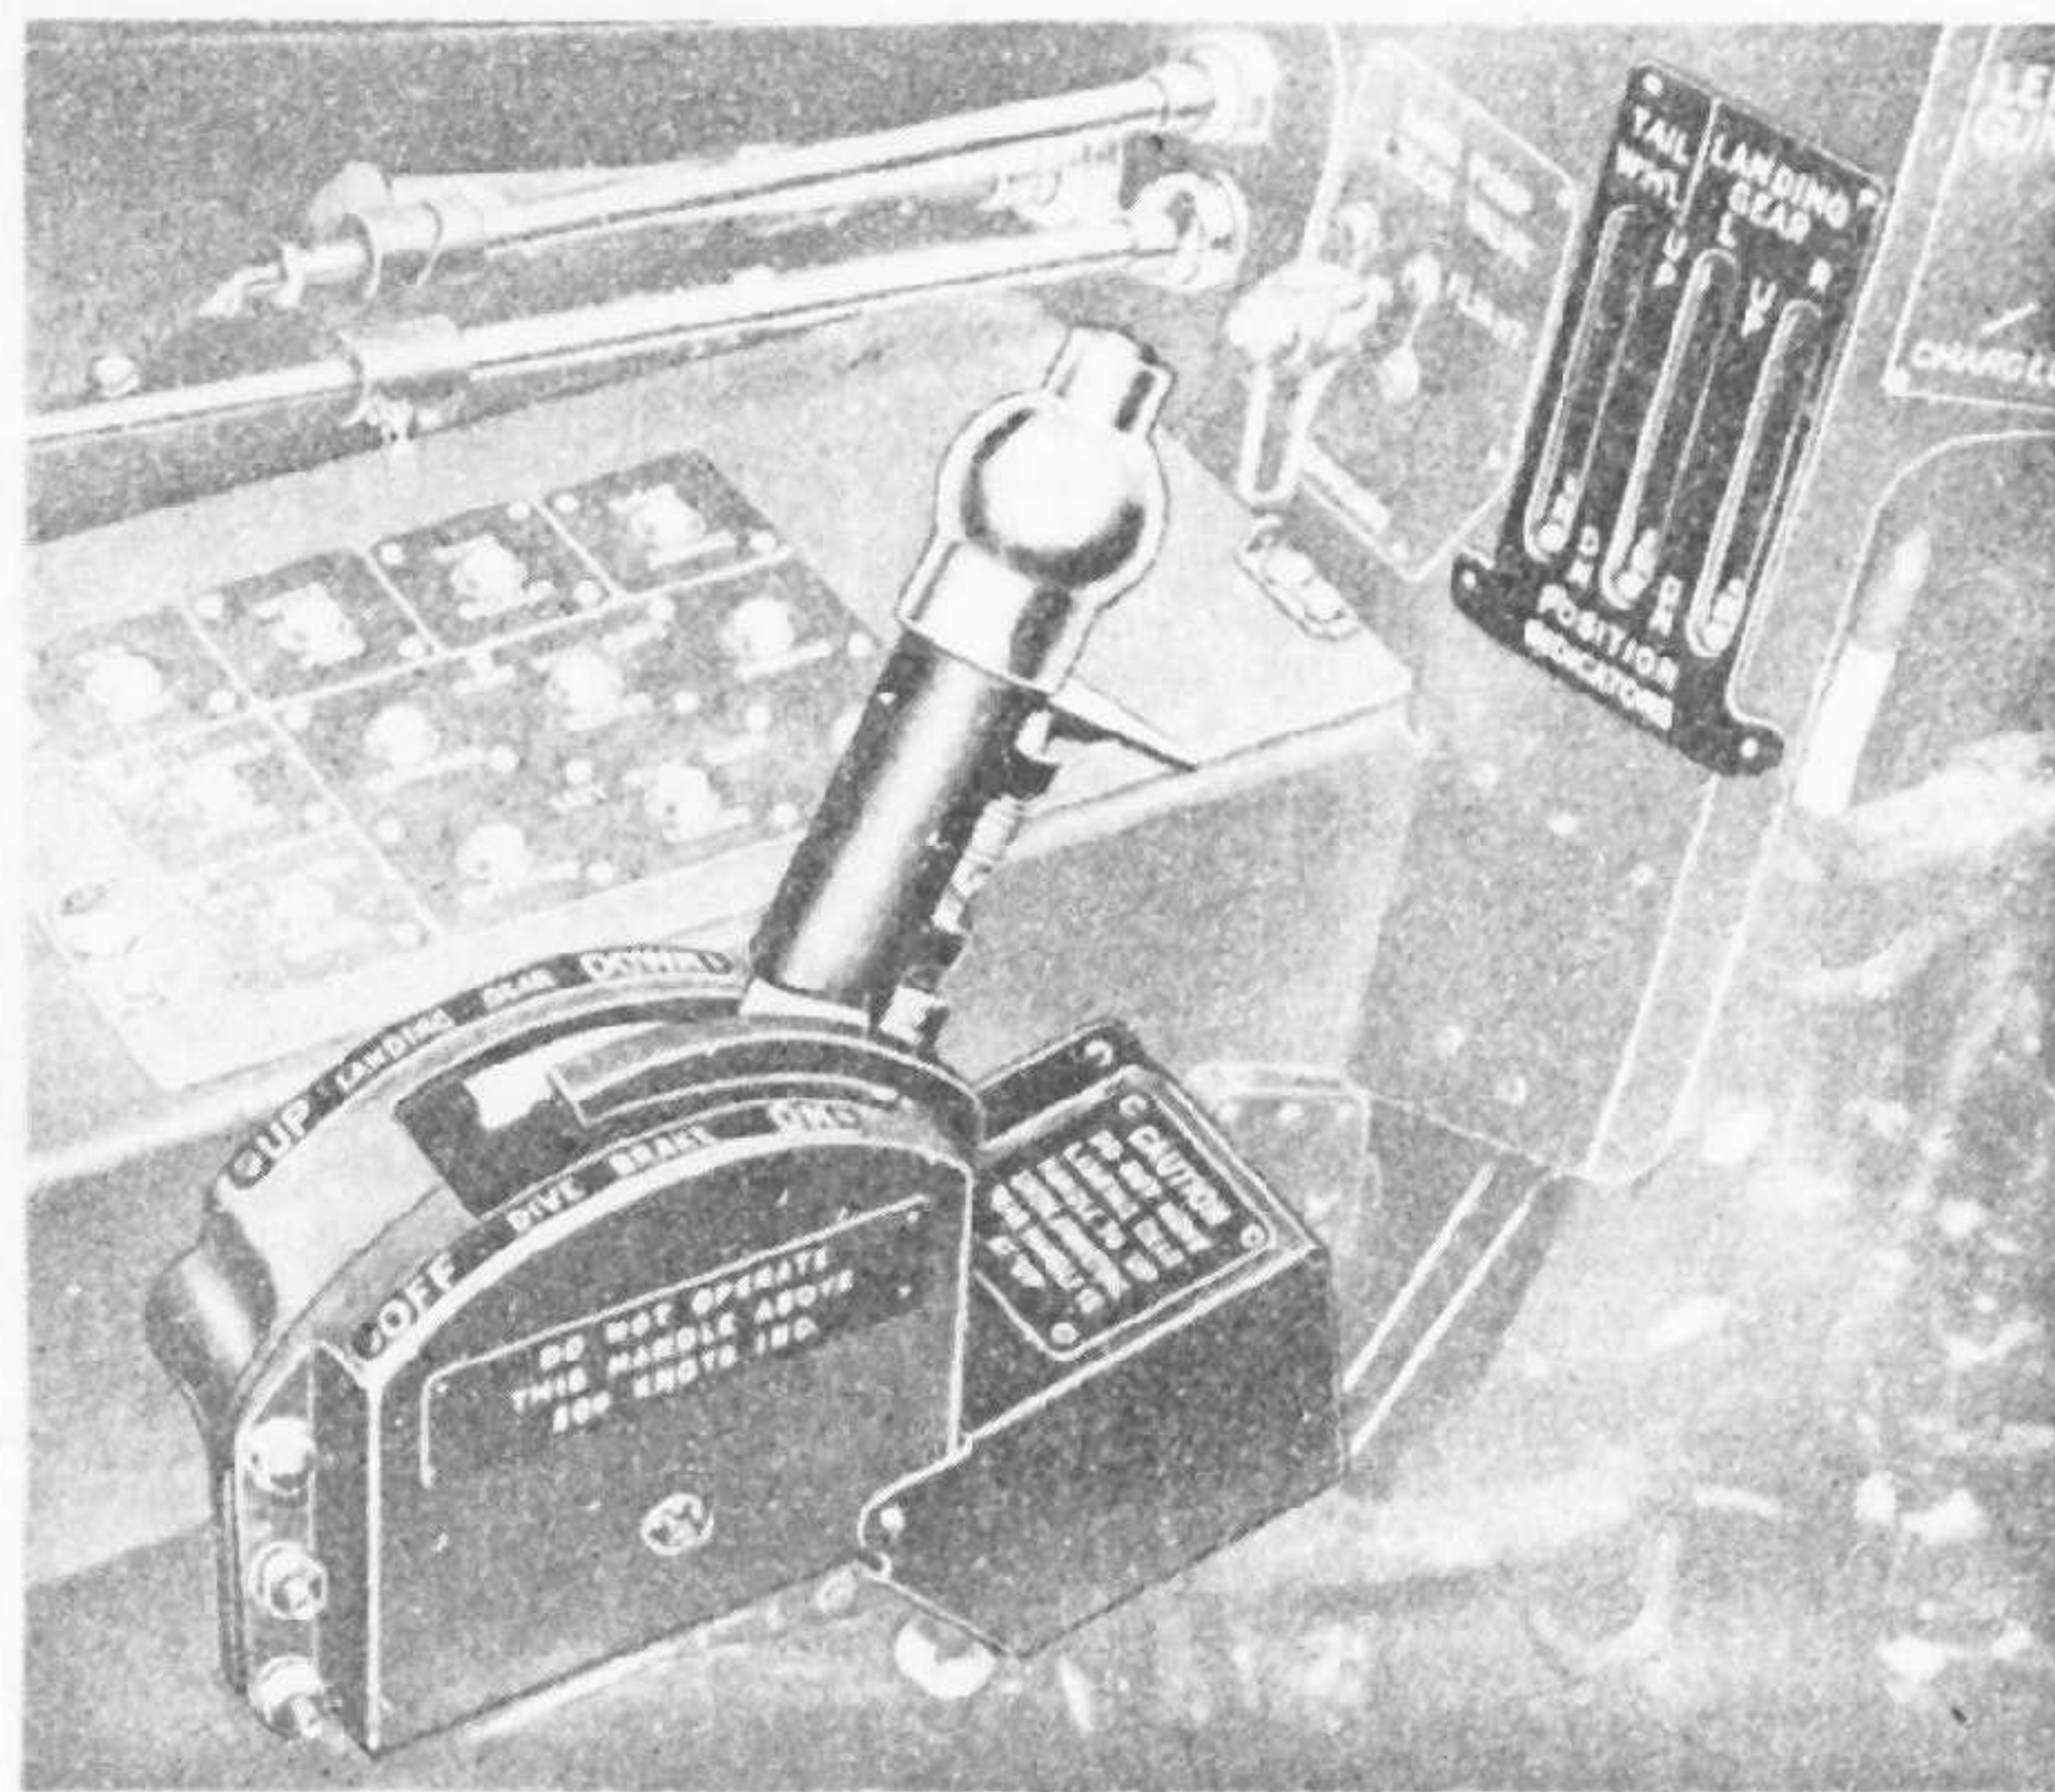

Fig. 14 — Landing Gear and Dive Brake Control
(8) DIVE BRAKE CONTROL. — The shift-type dive brake control is located on the left side of the cockpit (see figure 14). Moving the control to "ON" extends the main landing gear only, the tail wheel remaining retracted. Moving the dive brake control to "OFF" retracts the main landing gear. It is not permissible to operate the dive brake control to extend the landing gear at more than 260 knots because at higher speeds the dive brakes will not extend fully or lock down. The dive brake control should not be operated to retract the landing gear above 350 knots.